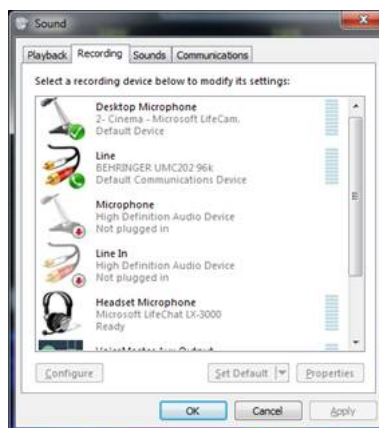

Figure 5—Example of Windows Sound Control Panel Recording Tab.
Step 7: select the Recording Tab in the Windows Sound Control Panel and find your Headset Microphone. In the Figure 5 you can see my Microsoft Lifechat LX-3000 headset as an example.